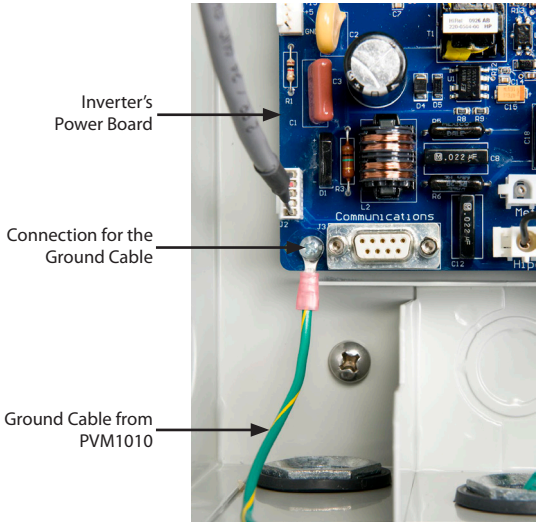

Figure 1-3 Connecting the ground cable to the inverter's power board
3. Attach the ground cable from the PVM1010 to the lower left corner screw on the power board. The wire is green with a yellow stripe and has a ring lug on the end. See Figure 1-3.